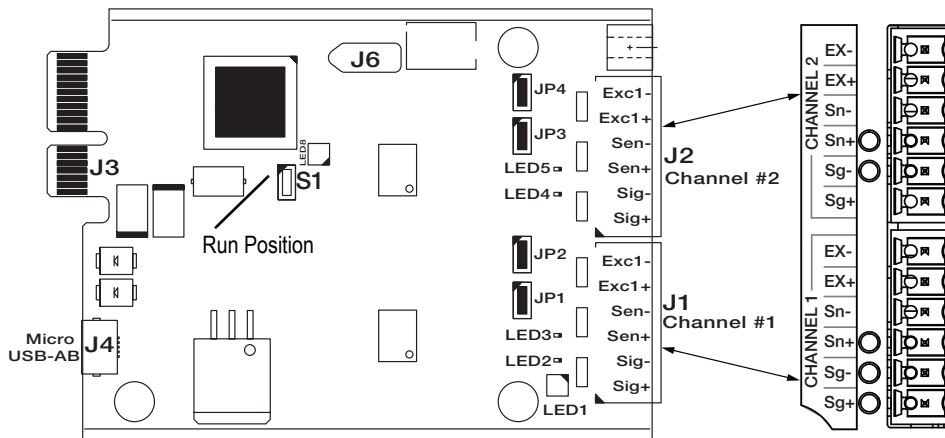

Figure 2. Dual A/D Scale Card
4. Ensure S1 switch on the card is in the *Run* position (Figure 2).
9. For Channel 1, wire the load cell cable from the scale to the connector (from the parts kit) for J1 as shown in Figure 2 and Table 3.
10. For Channel 2, wire the load cell cable from the scale to the connector (from the parts kit) for J2 as shown in Figure 2 and Table 3.